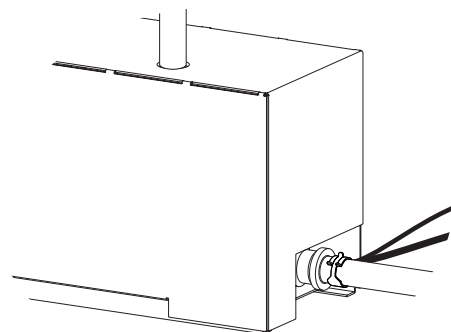

Figure 5
- Place the condensate pump box over the top of the condensate pump. Route the electrical cord and the safety switch wires down the side of the pump to run out the same end of the pump box as the drain hose connection. The pump box will sit fully down over the base, be careful to not pinch any of the wires. **See Figure 5.**